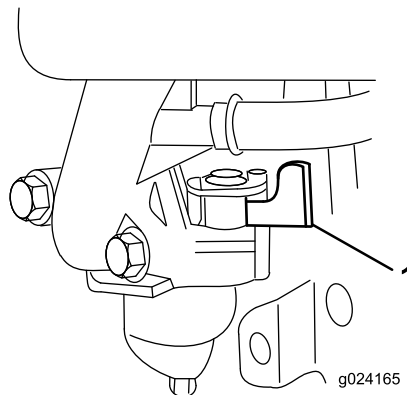

Figure 14
2. Open the fuel valve by moving the fuel-valve lever to the **right** (Figure 14).
Note: Close the fuel valve by moving the fuel-valve lever (Figure 14) to the **left** if you will not be starting the engine soon afterward.